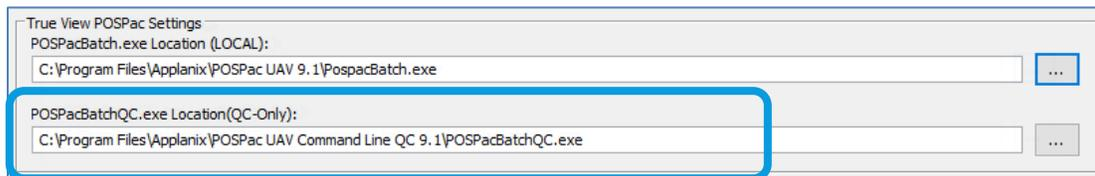

Figure 11 - TrueView POSPac QC Settings
4. Under *POSPacBatchQC.exe Location (QC-Only)* (Figure 11), navigate to "C:\Program Files\Applanix\POSPac UAV Command Line QC 9.1\" and select *PospacBatch.exe*. Then, select Apply when finished to commit the setting.